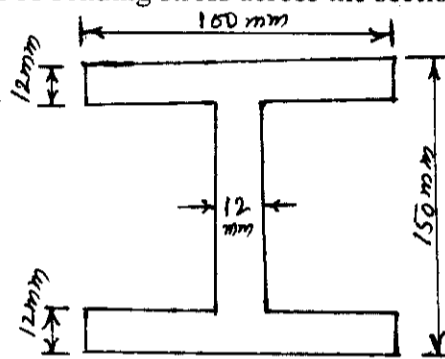

Fig.Q6(c)
c. At a given position in a beam of uniform I-section is subjected to a bending moment of 100 kN-m. Plot the variation of bending stress across the section. [Refer Fig.Q6(c)]